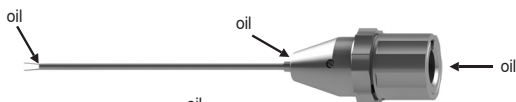

Fig. 6a
- Apply the instrument oil selectively on the area that needs it (Abb. 6a und 6b).